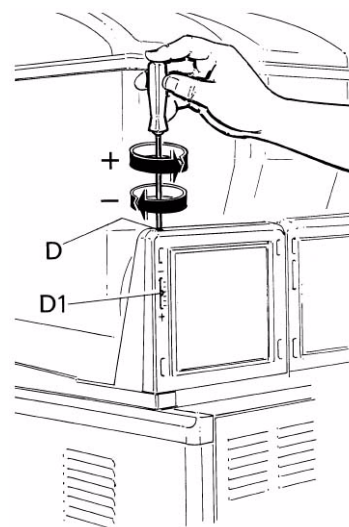

FIGURE 12
4. Change the thickness of the product by turning the screw (D) on the back of the bowl, as shown on Figure 12. Turn the screw clockwise for thinner product or counterclockwise for thicker product. The indicator gauge (D1), located on the back of the bowl, shows the degree of adjustment (+/-). (+) = thicker, (-) = thinner.